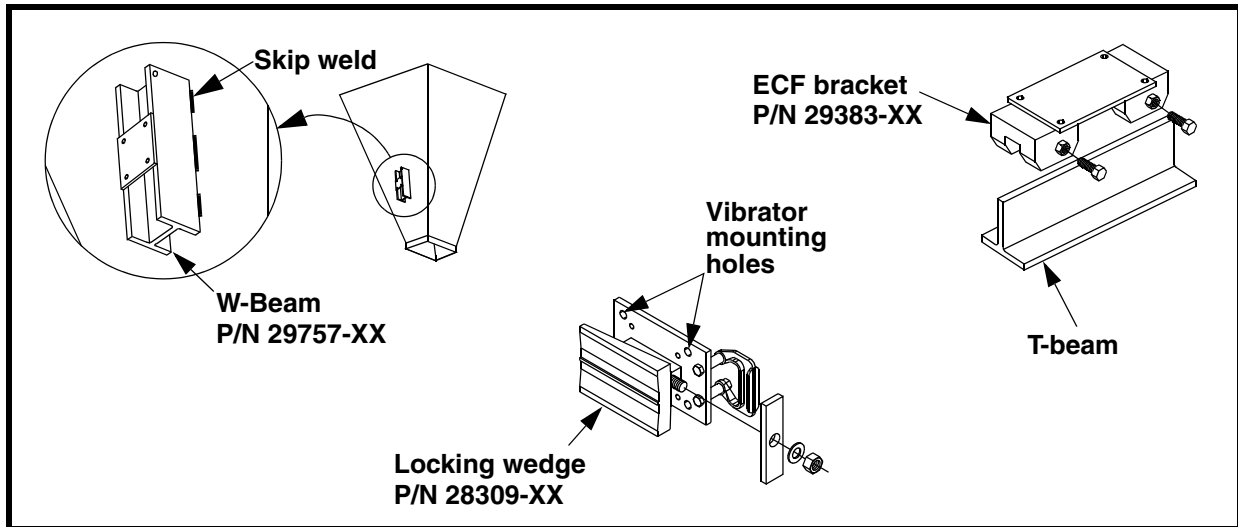

Figure 2. W-Beam, ECF Bracket, and Locking Wedge Mounts
3. If using MARTIN® W-Beam Mount (or equivalent) or T-beam to mount vibrator onto structure (see Figure 2), do the following:
4. If installing vibrator onto hopper with female wedge mount already in place, use MARTIN® Locking Wedge (Figure 2) or equivalent to mount vibrator.